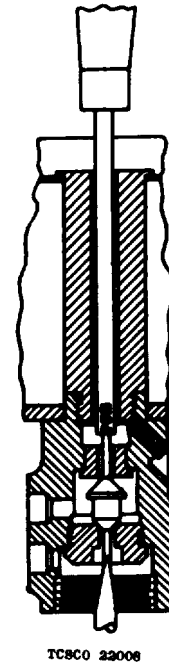

Figure 29. Method of grinding inverted valve.
- (a) Use compound as described in (1)(a) above. Spin valve with grinding tool as shown in figure 29 for grinding lower seat and with screwdriver for upper seat.
- (b) Clean pushrods and seats as described in (1)(b) above.
- (1) Valve bushings are furnished with the vertical portholes pilot drilled and the valve seats completely machined.